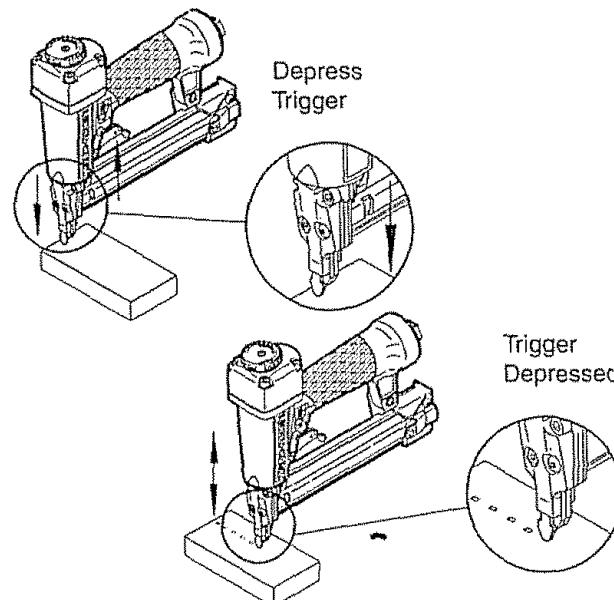

Figure 3
Refer to Figures 3 & 5 (pages 3 and 6)
- The air tool is equipped with a contact trip safety mechanism (see Figure 3) that disables tool unless contact trip is pushed against work. Hold body firmly and press contact trip on workpiece where fastener is to be applied. Pull trigger to drive fastener into workpiece.